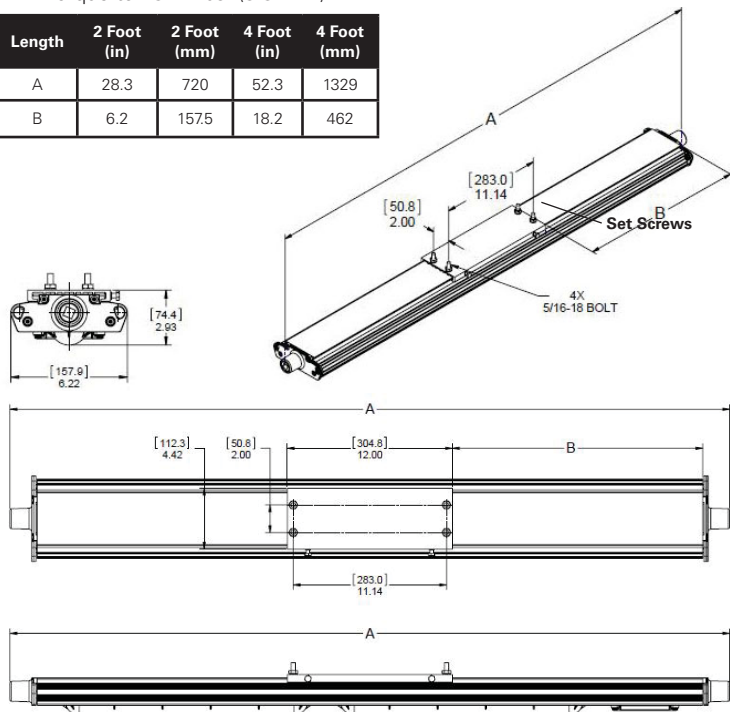

Figure 3. DP1057MTK Back Mount Installation
1. For back mount, use the bracket as a template, mark and drill holes into the mounting surface and use supplied 5/16" bolts (see Figure 3).
3. It is strongly suggested to use two (2) qualified tradespeople to proceed with the final mounting of the fixture. This is recommended to avoid any personal injury or damage to the fixture.
4. Place the four (4) 5/16" bolts through the mounting plate and tighten evenly to the support structure. Minimum torque 138 in.-lbs. (15.6 N-m).
7. Tighten the four (4) 1/4" set screws on the slide bracket until they bottom. Torque to 78 in.-lbs. (8.8 N-m).